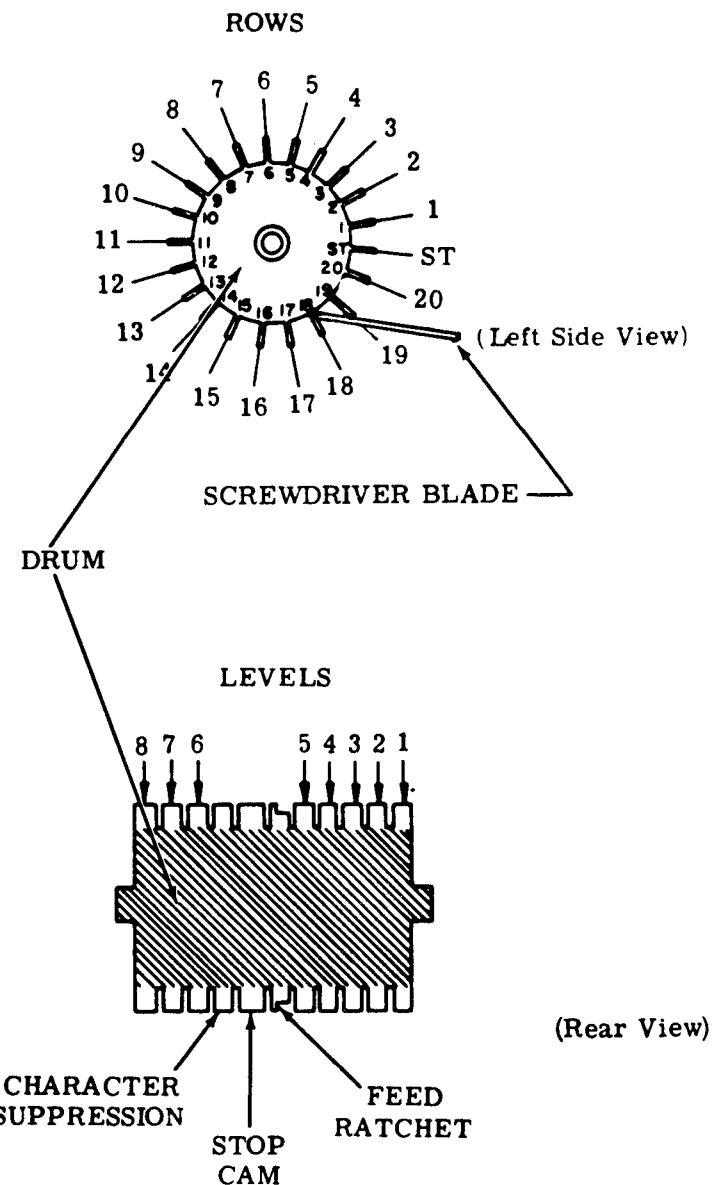

Figure 5 - Answer-Back Drum
**2.06** Code the answer-back drum in a counter-clockwise direction (Figures 5 and 6), starting with row no. 1.
**2.07** A particular character is coded by either retaining or removing tines within a row, as illustrated in Figure 5. A tine may be removed by either of the two following methods:
blade against the top of the unwanted tine until the tine breaks off. Figure 5 illustrates this method — pressure applied to base of row no. 18 and against top of adjacent tine being removed from row no. 19.